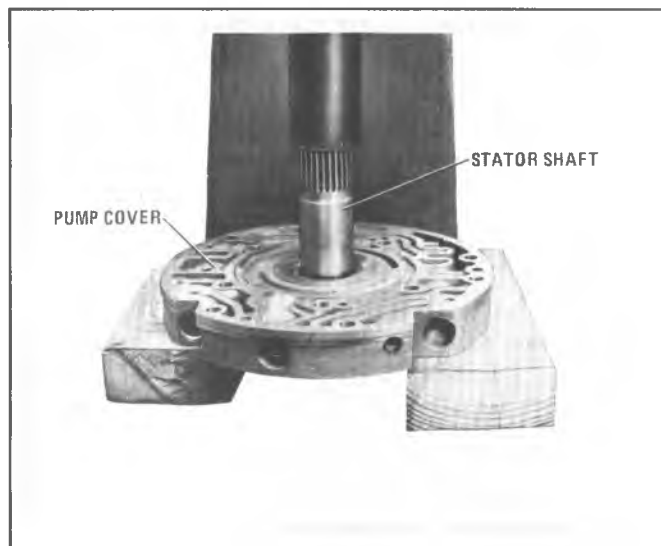

Figure 7A6-206 Removing Stator Shaft and Flange Assembly
b. Using a press, press the stator shaft until it is removed from the pump cover bore (Figure 7A6-206).